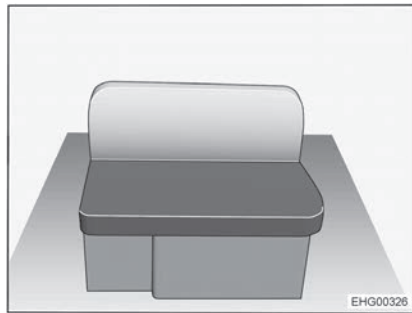

Fig. 22 Divan, on the right
- Remove the seat cushion and the back cushion from the divan (Fig. 22).